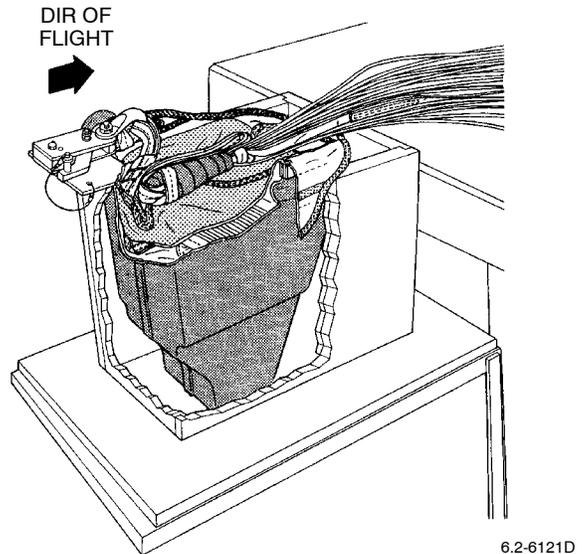

Figure 35. Route the Remaining Length
i. Route remaining length of stabilizer drogue connecting line forward on top of folded sleeve. Position terminal eye of controller drogue in left rear corner of container (Figure 35).